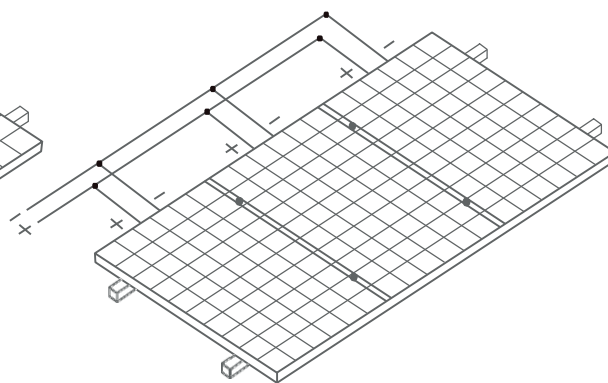

Figure 8 Connection in Parallel
- When connected in parallel, the current output is equal to the sum of each string's current (as shown in Figure 8). Fuse is necessary for each module string. Please take reference to the local regulation. Recommended maximum parallel Modules configurations: $\text{Fuse rating} / (1.25 * \text{short-circuit current})$.